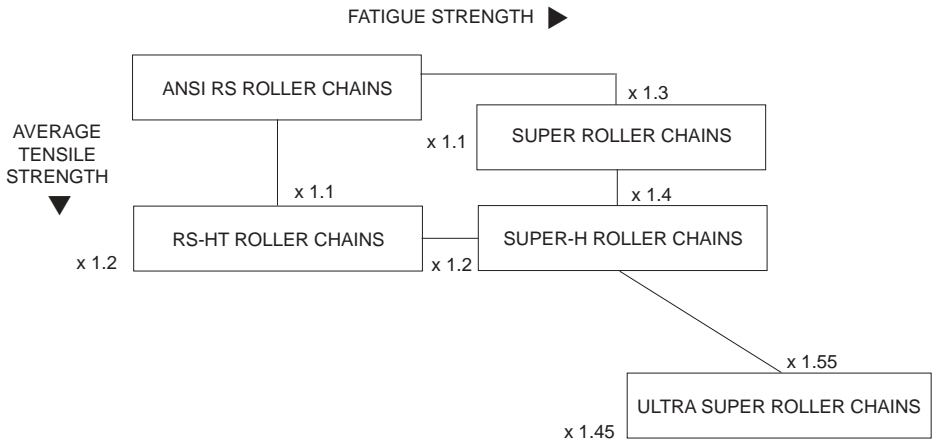

Figure 1.2 Increasing Fatigue Strength and Tensile Strength of Roller Chains
These are enhanced types of ANSI Roller Chain (RS) in average tensile strength and/or fatigue resistance. Each chain has different features. Figure 1.2 shows the general relationship of high performance chains to ANSI Standard Roller Chain.
NOTE: The multipliers shown in Figure 1.2 compare high performance chain to RS Roller Chain. The comparisons are between products of Tsubaki. You may find the ratio varies by chain size or manufacturer. Refer to a specific manufacturer's catalog for details.